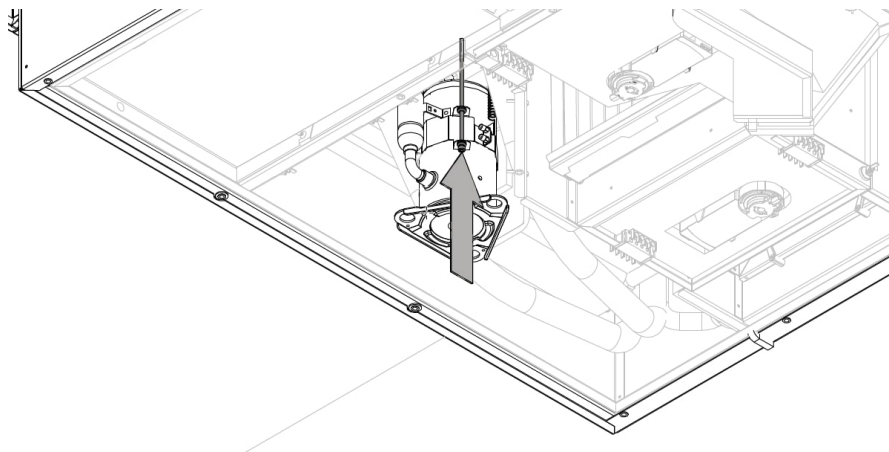

Figure 22: Transportation lock
2. Locate the transportation lock, see Figure 22.